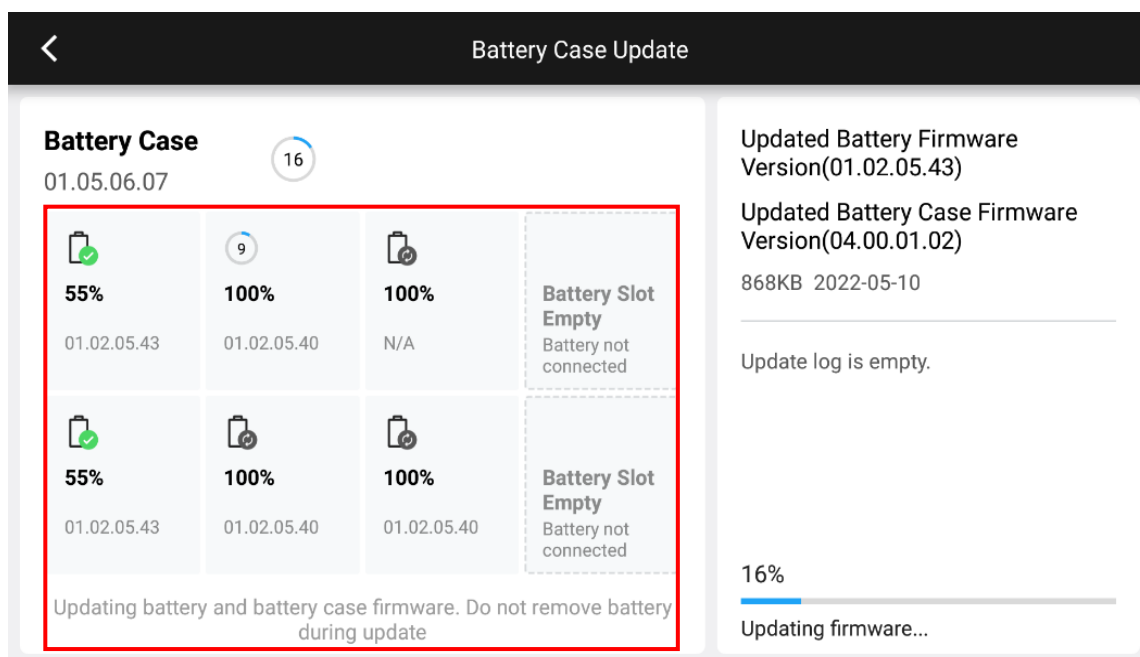

Figure 2: Connect the remote controller to the battery station to update firmware for the battery station and all the M300 batteries.
- Monitor progress using the app (Figure 2). Note that the battery station will stop charging while firmware update is in progress.